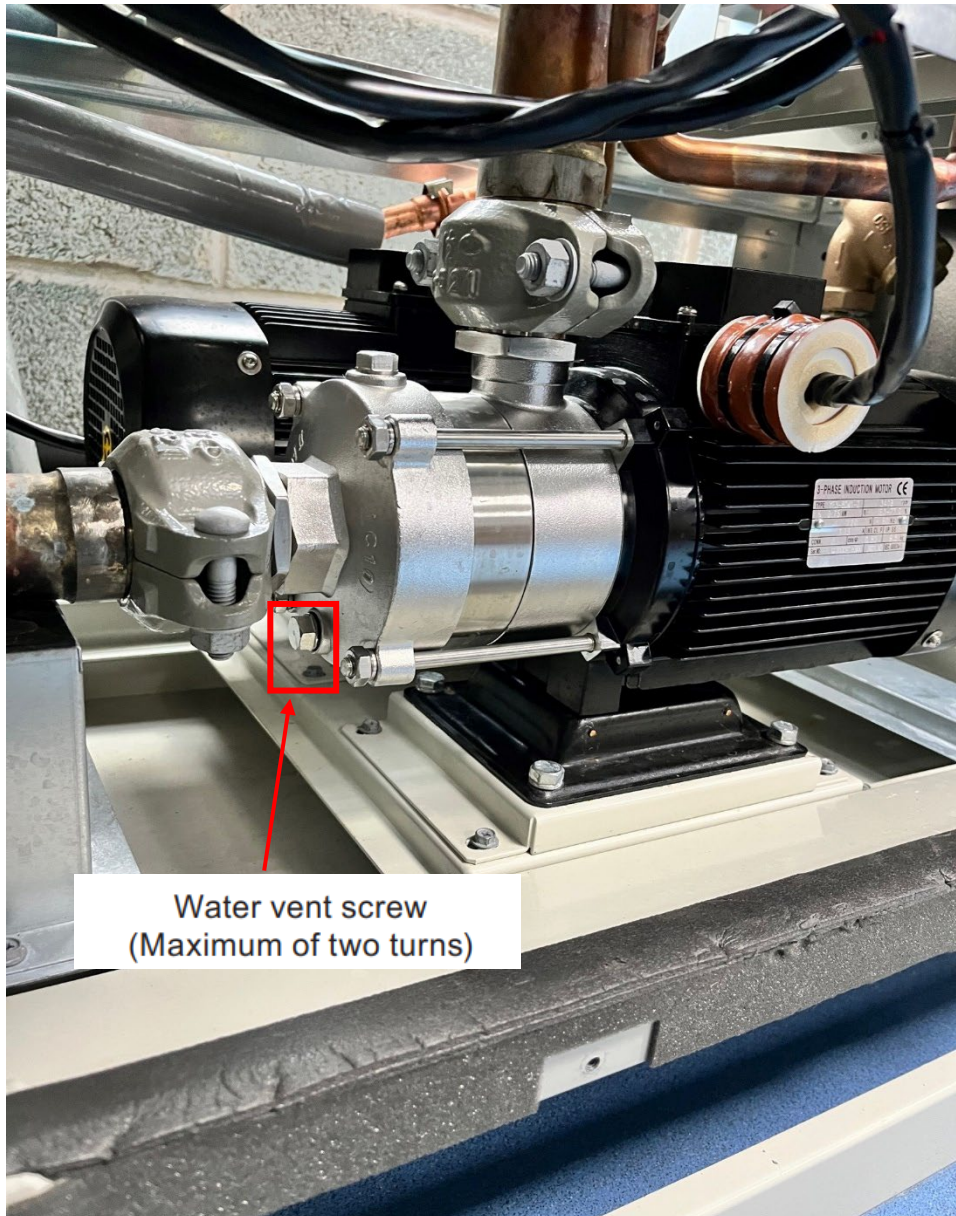

Fig. 8
14. As highlighted on figure 8, slowly turn the water vent screw of the two water pumps that is situated at the lower part of the pump casing. (Maximum of two turns or water may burst out)